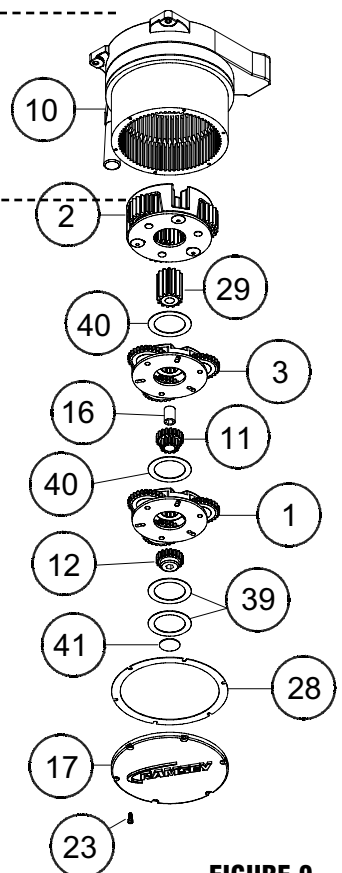
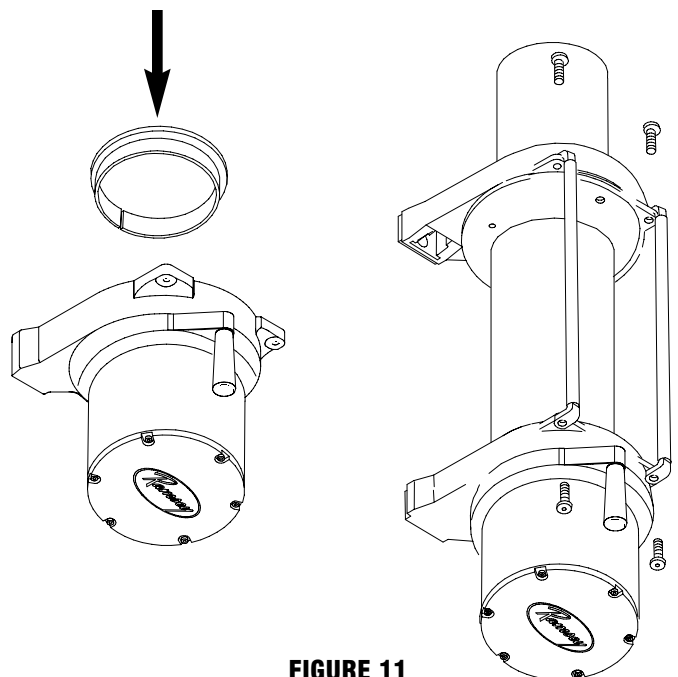

FIGURE 9
FIGURE 11
3. Gently lift the Gear Housing assembly, working the gears, bushings, etc. that are inside the Gear Housing out so that they are left stacked on the workbench. See Figure 9.
4. Turn the Gear Housing assembly over and set on workbench. Remove the Retainer (item #37) by removing six capscrews (item #21) from Gear End Bearing (item 13). Once the retainer is removed, the Ring Gear (item #10), Cam Ring (item #36), and Locking Ring (item #34) can be lifted off the end bearing.
8. Reassemble Gear Housing as shown in Figure 9. Make sure locking ring is positioned with stop post at marked location. The capscrews or the retainer should be tightened to 40-45 in-lbs. **Do not over-tighten.**
9. Place Gear Housing over the stacked gears, etc. that you removed in step 3. Gently work the housing over the stack, turning it as needed to mesh the planetary gears with the ring gear in the housing. Once they are all in the housing, flip the assembly over. Align the Gear Housing Cover and gasket with the holes in the ring gear. Replace the (6) capscrews that hold the Gear Housing Cover onto the Gear Housing. Tighten securely.
11. Turn the Gear Housing over and set it on the work bench with the Gear Housing Cover down. See Figure 11.
13. Place the tiebars on the motor end and gear end and fasten using (4) screws. Tighten securely.